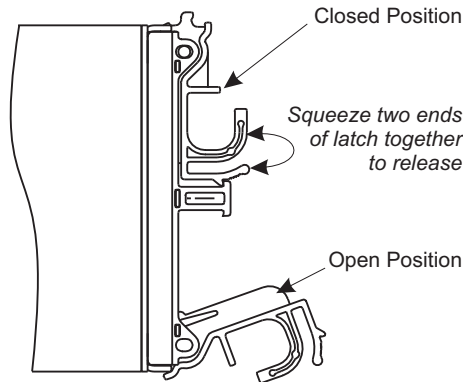

Figure 3 LRC Module Latch
2. Cam the module home by manually closing the latches (see Figure 3).